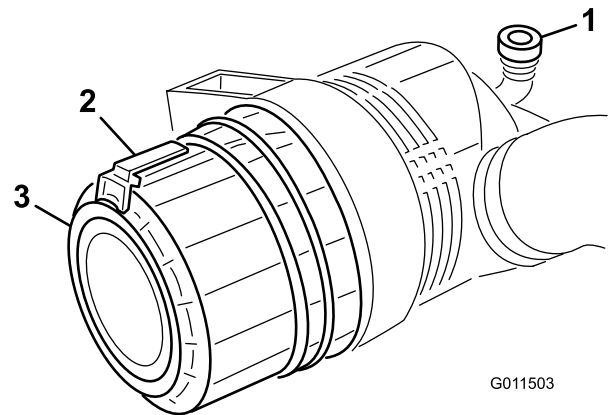

Figure 70
1. Pull the latch outward and rotate the air cleaner cover counterclockwise (Figure 70).
7. Install the cover orienting the rubber outlet valve (Figure 70) in a downward position - between approximately 5 'o clock to 7 'o clock when viewed from the end. Secure the latch.